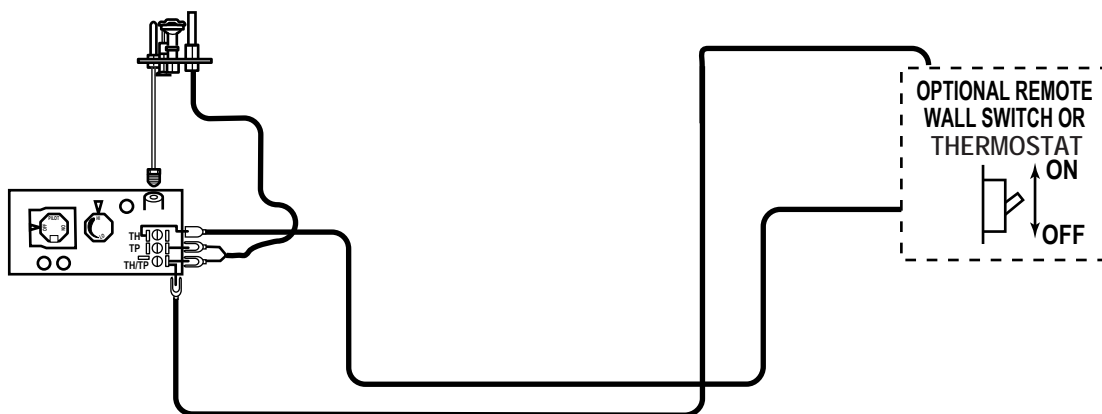

Figure 35 - Wiring Diagram for Wall Switch
A remote wall switch and up to fifteen (15) feet of 18 Ga. wire may be used with this appliance. Attach the wall switch in a junction box at the desired location on the wall. See *Figure 35*. Do not extend beyond the wall switch wire length provided.